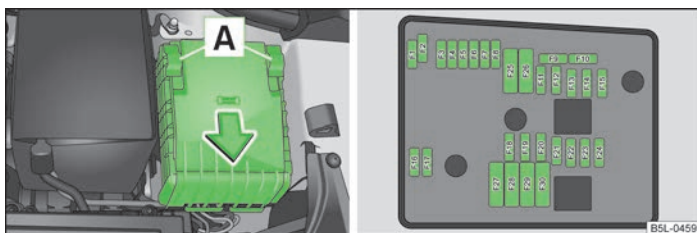

Fig. 166 Fuse box cover in engine compartment/Schematic diagram of the fuse box
- The cover for the fuse box is removed by pushing the circlips **A** » Fig. 166 upwards as far as the stop. The symbol  is displayed behind the clip. Now remove the cover.